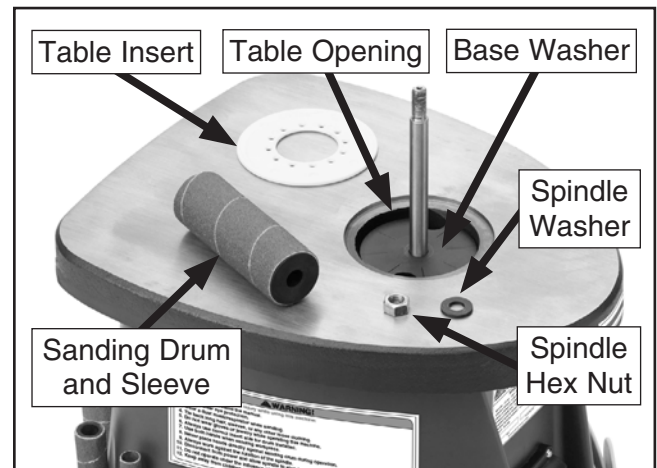

Figure 18. Table insert area.
3. Wipe or vacuum out any dust or particles that have accumulated beneath the table insert on the table opening, shown in **Figure 18**.